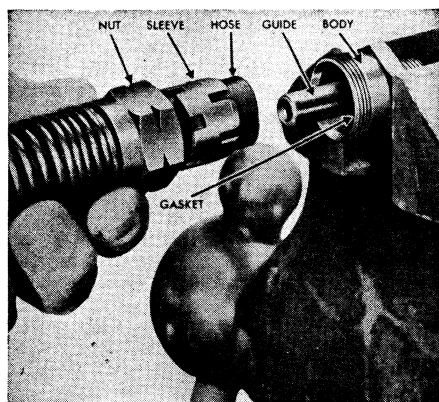

Fig. 37 Assembling hose to connector body
7. Put end of hose in connector body, making sure that end of hose is against bottom of the recess, Fig. 37.